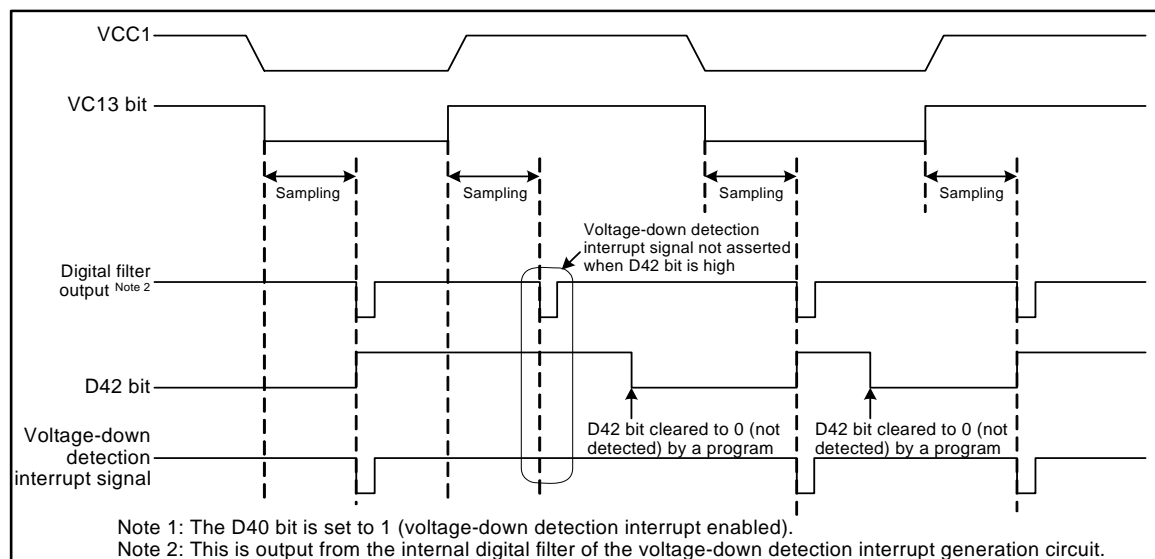

Figure 1. Typical Operation of the Voltage-Down Detection Interrupt Generation Circuit
- The cause of voltage-down detection interrupt ( $VCC1 < Vdet2$  or  $VCC1 \geq Vdet2$ ) can be determined by the VC13 bit (voltage-down monitor flag). (This interrupt request is not generated until the sampling time elapses after the value of the VC13 bit has changed.) Table 1 shows the sampling time. Figure 1 shows the manner of how a voltage-down detection interrupt request is generated.